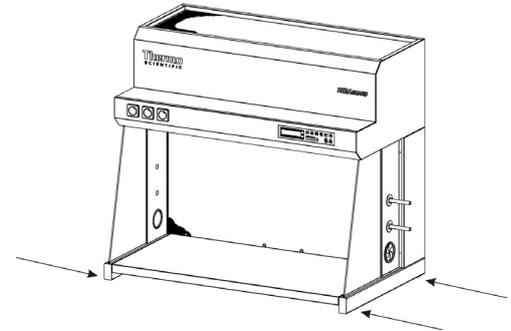

Fig. 2
**For transport, lift the device only at the lift points shown in figure 2.**